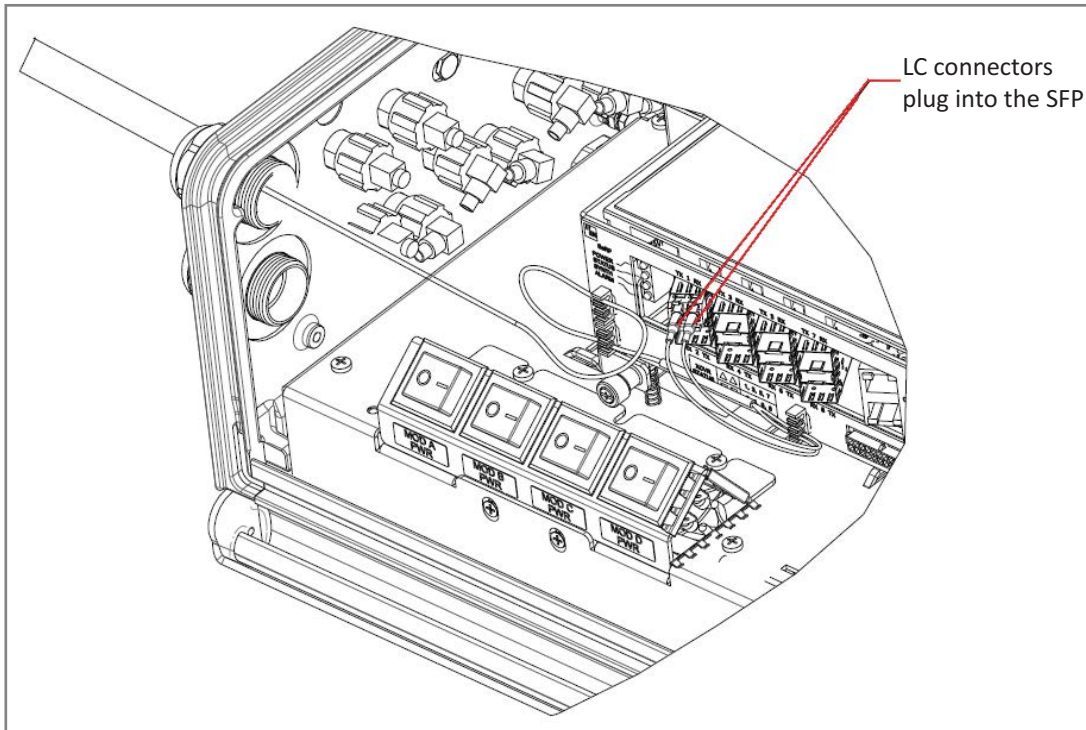

Figure 15. Connect LC Connector to SFP—Standard Configuration
- for standard configurations, see Figure 15 on page 65